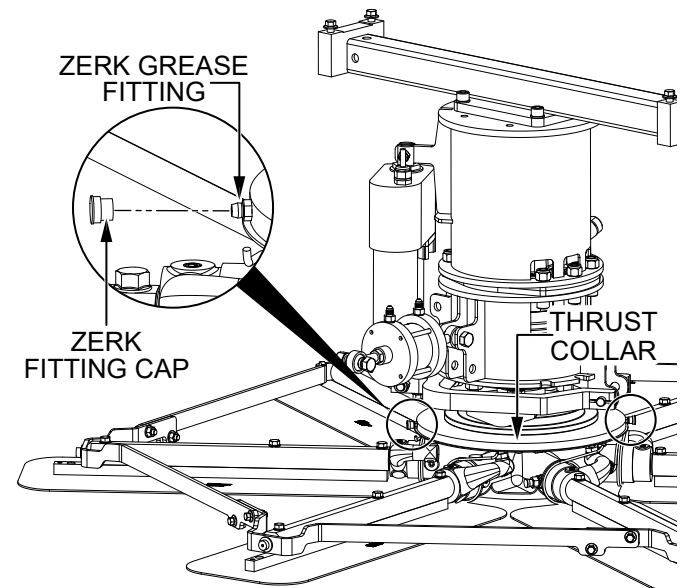

Figure 40. Thrust Collar Lubrication
1. Locate the **Zerk grease fittings (2)** on either thrust collar (Figure 40). Remove the **Zerk fitting caps** and set them aside.